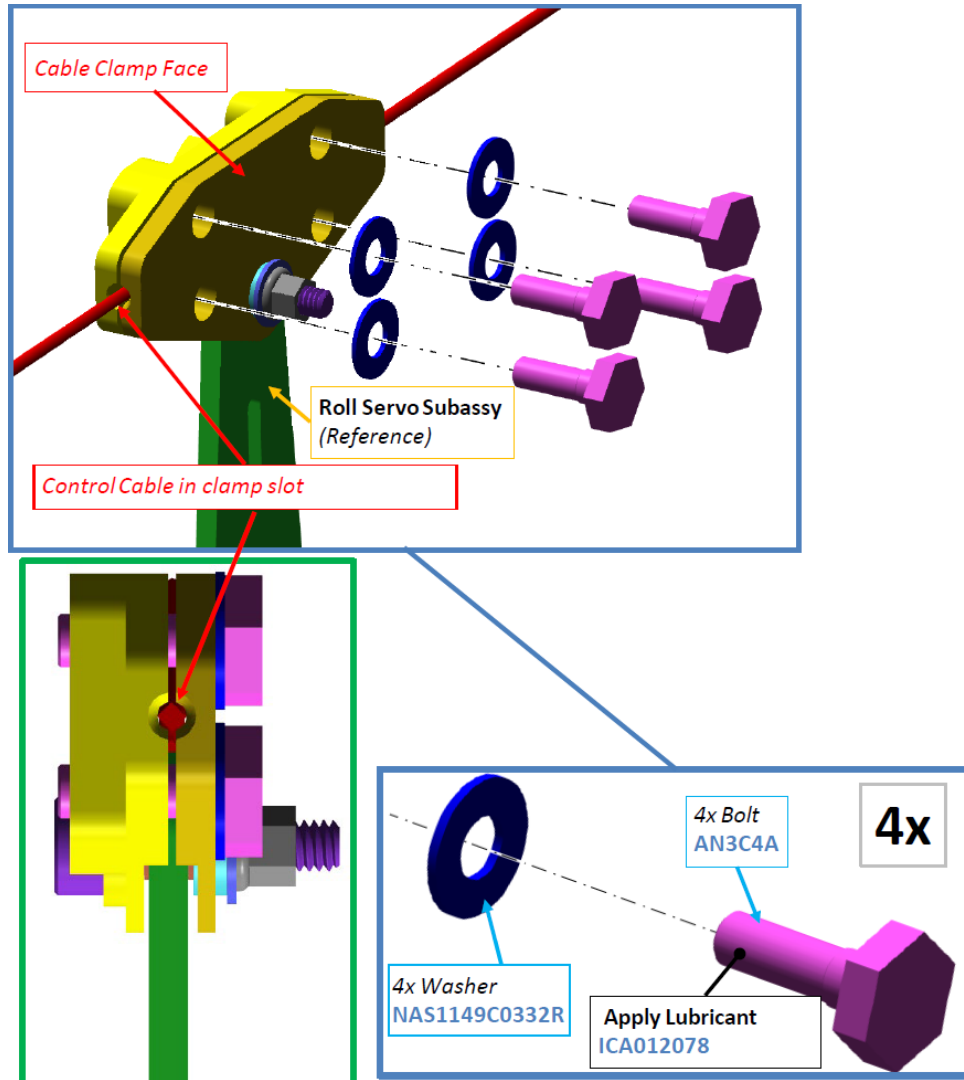

Figure 24 Roll Servo Clamp
4. Remove the 4x Bolts (AN3C4A), and 4x Washers (NAS1149C0332R) on the roll servo arm clamp. (See figure 24)
5. Remove the cable clamps and carefully separate them from the roll cable (see Figure 24).
29. Install 4x Bolts (AN3C4A) and 4x Washers (NAS1149C0332R) (see Figure 24).